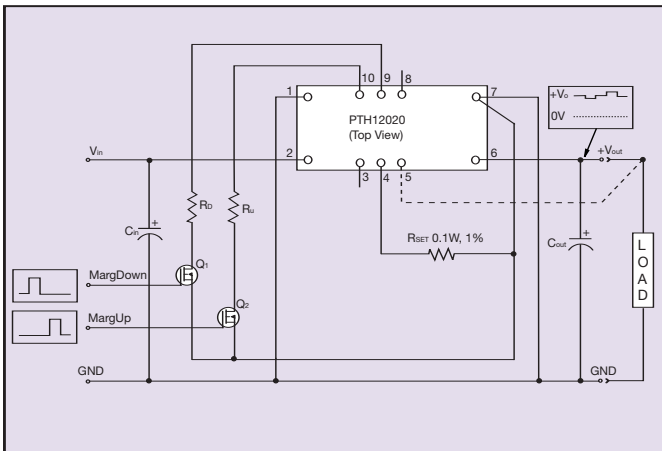

Figure 11 - Margin Up/Down Application Schematic
The 5% adjustment is made by driving the appropriate margin control input directly to the GND terminal (2). A low-leakage open-drain device, such as a MOSFET or p-channel JFET is recommended for this purpose. Adjustments of less than 5% can also be accommodated by adding series resistors to the control inputs (See Figure 11). The value of the resistor can be selected from Table 6 or calculated using the following formula.